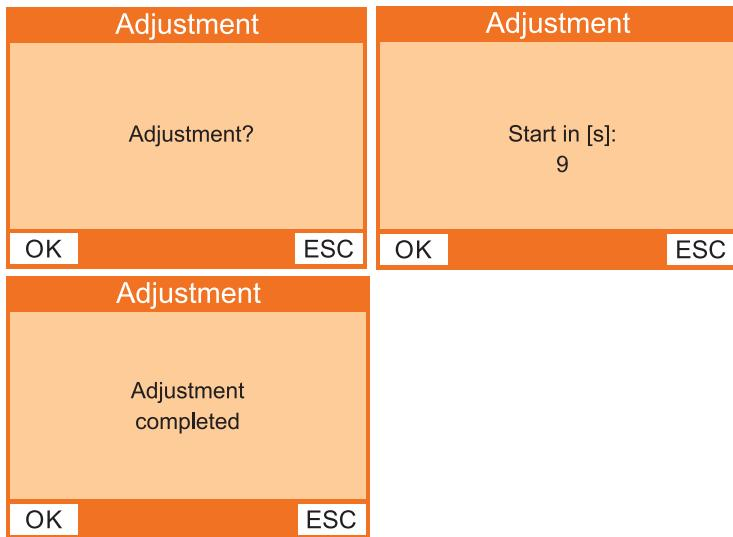

Fig. 22: Adjustment
3. Press the **Menu** key. The start view of the **Adjustment** process will appear (fig. 22, left image, top).